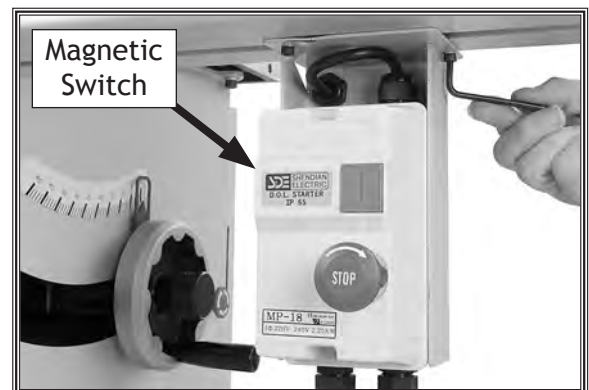

Figure 31. Magnetic switch installed.
26. Thread two M5-.8 x 12 cap screws with 5mm lock washers through the switch bracket and into the sliding table base, and tighten the cap screws (see Figure 31).